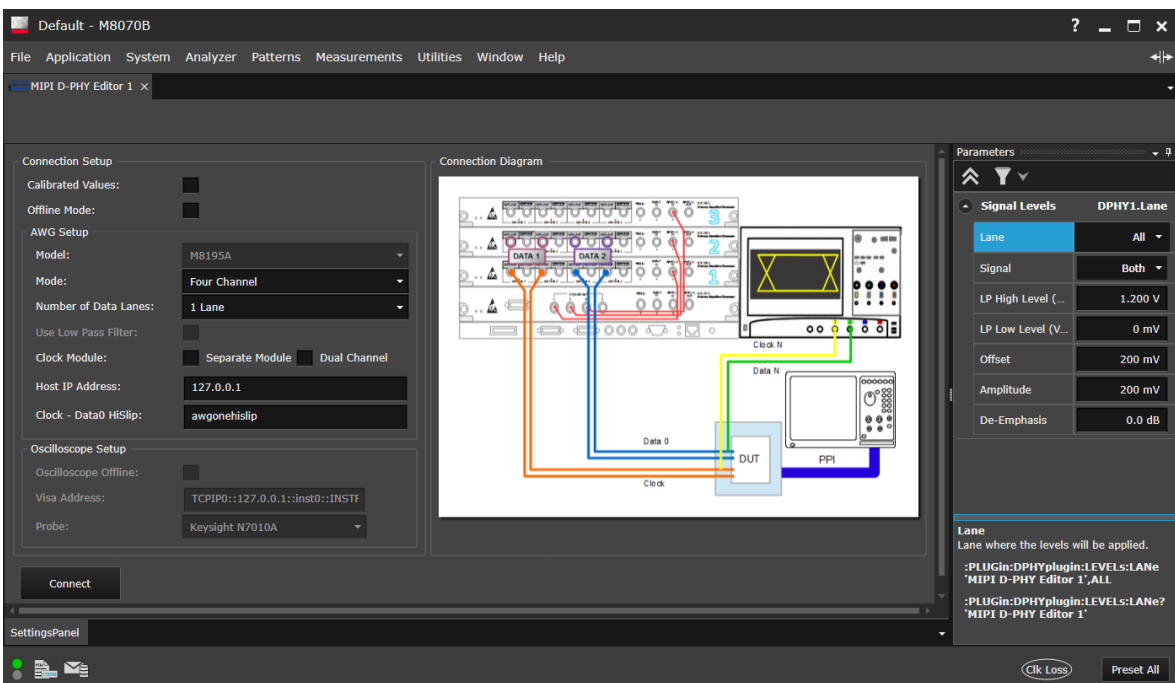

Figure 10 MIPI D-PHY Editor Plug-in User Interface
- 4 The **MIPI D-PHY Editor** user interface appears as shown in Figure 10.